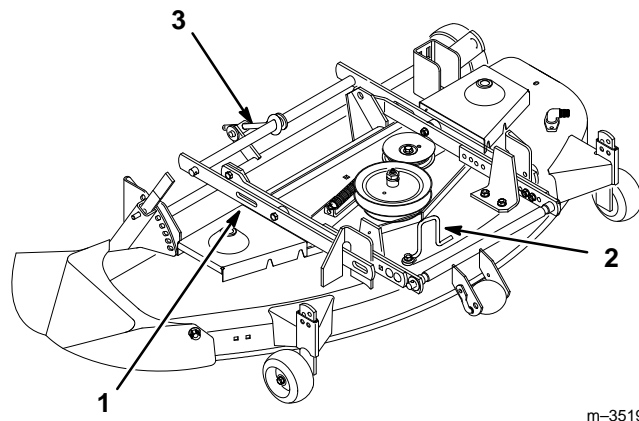

Figure 5
4. After sliding the mower under the tractor, position it so that the slots in the side of each of the mower's mounting brackets (Fig. 5) are aligned directly below the tractor's attachment lift arm.